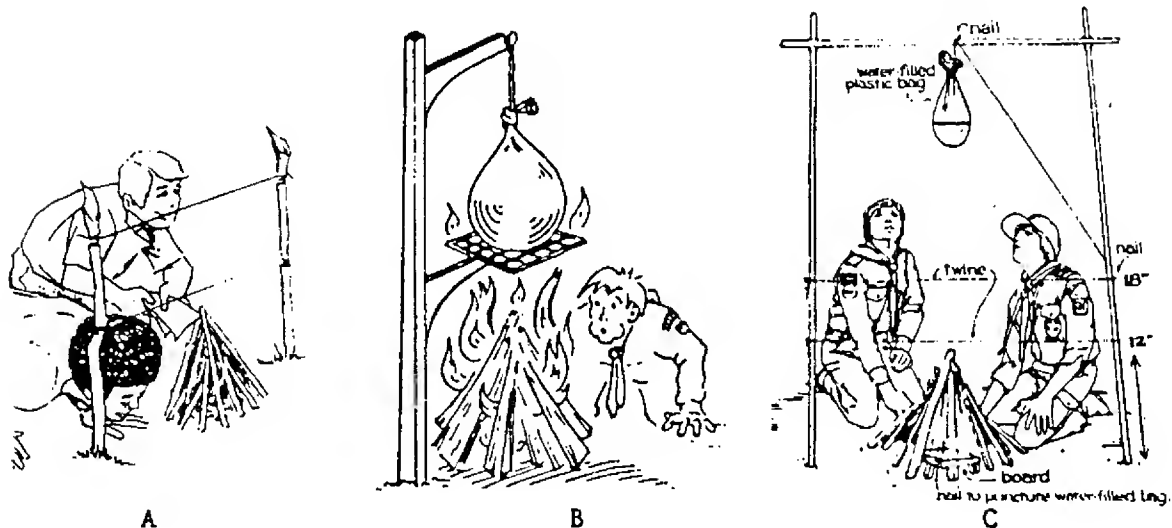

Figure 408 A String Burning Contest
20. String Burning Contest: This may be done in many ways. Figure 408 shows a few different ways of setting one up.